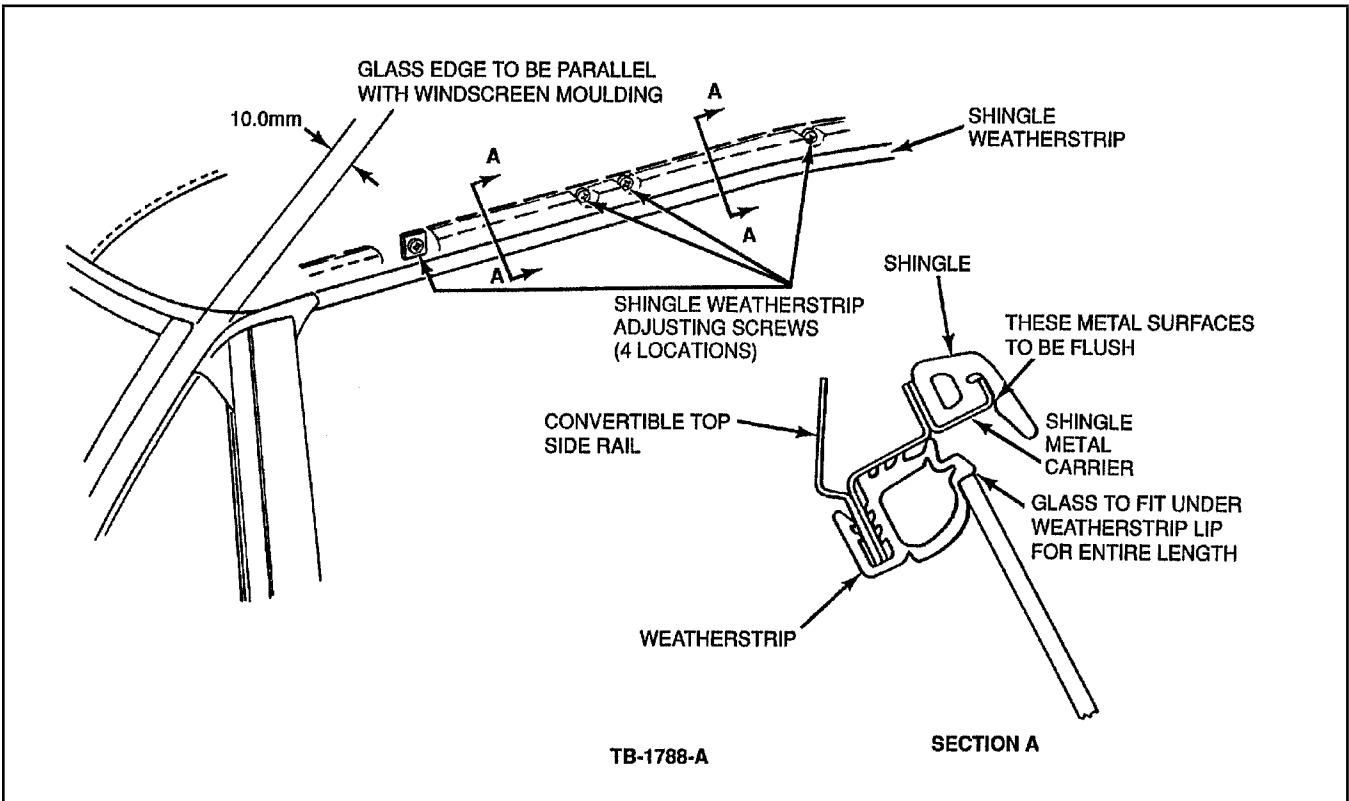

Figure 2 - Article 90-25-7
1. With the door closed and correctly aligned, check the leading edge of the quarter glass to be sure it is parallel to the 'A' pillar windshield moulding, Figure 2. A gap of about 10mm should exist between the glass and the moulding. If alignment is required, proceed with Steps 2 through 6.
1. Make sure the upper edge of the window glass is seated under the lip of the weatherstrip when it is fully raised, Figure 2. If alignment is required, proceed with Steps 2 through 5.
4. Turn the adjuster screw, Figure 2, to achieve correct positioning of the glass under the lip of the weatherstrip.
1. Make sure the upper edge of the window glass is seated under the lip of the weatherstrip for the full length of the glass when it is fully raised, Figure 2. If it needs to be adjusted, proceed with Steps 2 through 7.
3. Remove the two (2) water seals from the door inner panel.
4. Working through the openings exposed, loosen the two (2) regulator slider-to-glass bolts.
The shingle weatherstrip is adjustable in the vertical plane. A correctly located shingle weatherstrip has its metal carrier flush with the lower edge of the convertible top side rail, Figure 2. Adjust the shingle weatherstrip as follows:
2. Install the door trim and mirror bezel, Figure 2.